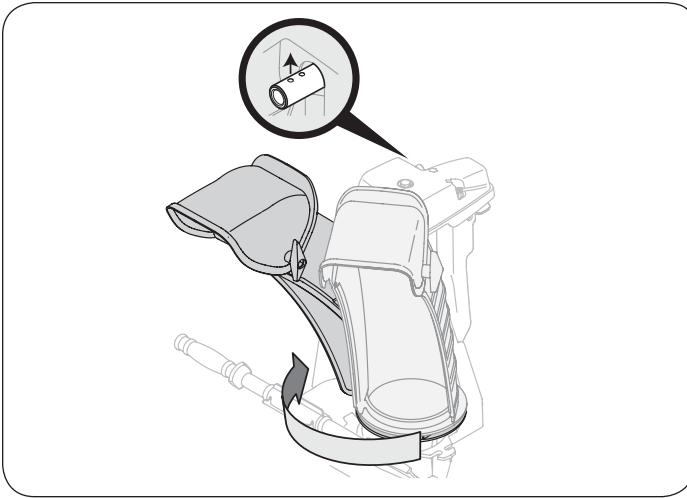

Figure 5
4. Squeeze the trigger on the joystick, rotate the chute assembly by hand to face forward. The holes in the chute rotation assembly should be facing up. See Figure 5.